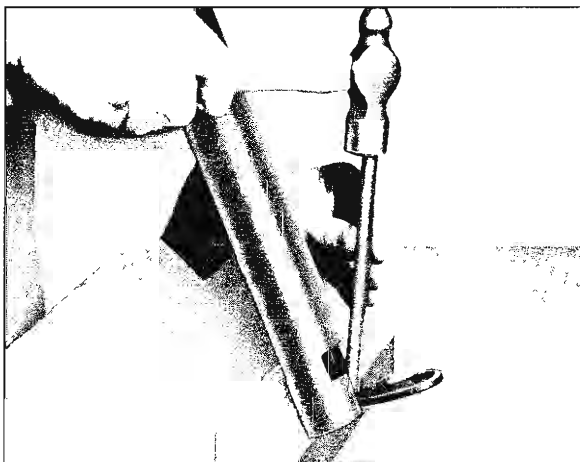

Fig. 26—Removing the Shift Tube
20. Remove the shift tube downward through the column as follows: support the mast jacket on the edge of a wood block and drive against the inner end of the lower shift lever with a hammer and metal rod. Perform this operation carefully so that the shift lever is not bent or distorted (fig. 26).